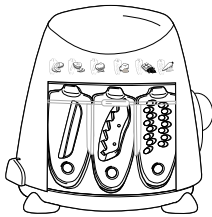

Fig 23
1. Your MultiProcessor is accessorised with 6 blades. Each of these blades are illustrated and numbered above the blade storage compartment, see Figure 23.